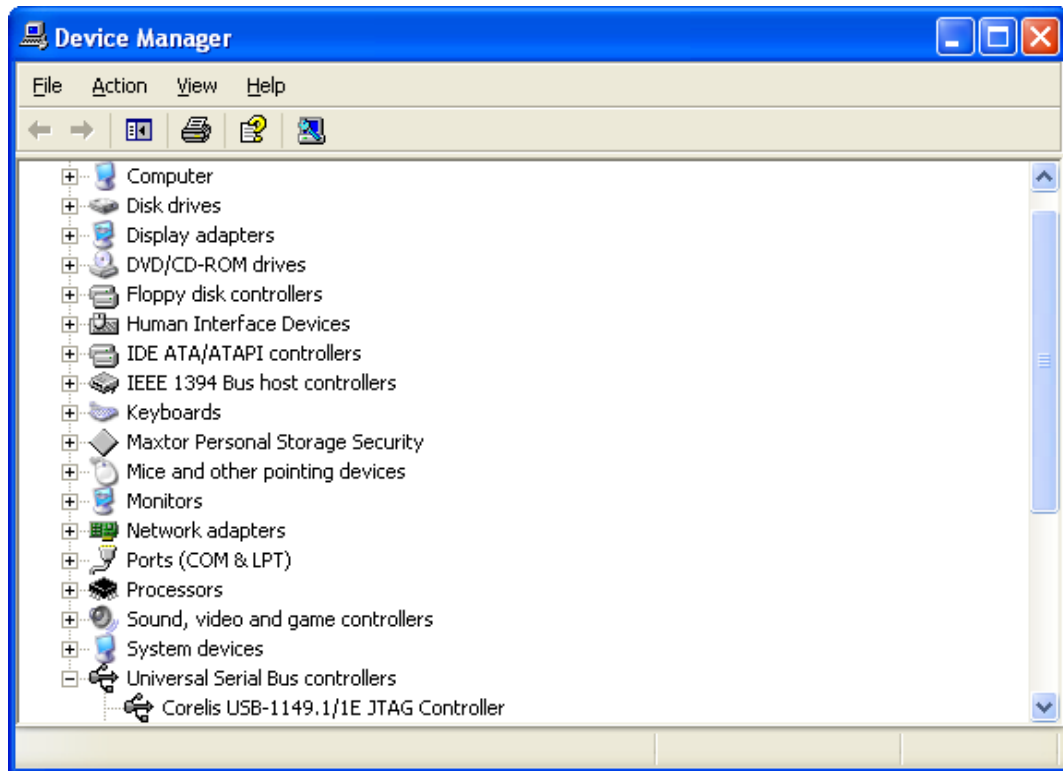

Figure 2-5. Windows Device Manager (WinXP)
9. The installation of the device drivers is now completed. Verify that the USB-1149.1/1E was correctly installed by checking for its entry in the **Windows Device Manager**. To run the Device Manager, right mouse click on the **My Computer** icon and then select **Properties**. Choose the **Hardware** tab and click on the **Device Manager** button. Corelis **USB-1149.1/1E JTAG Controller** should be listed in the **Universal Serial Bus controller** section as shown in **Figure 2-5**.